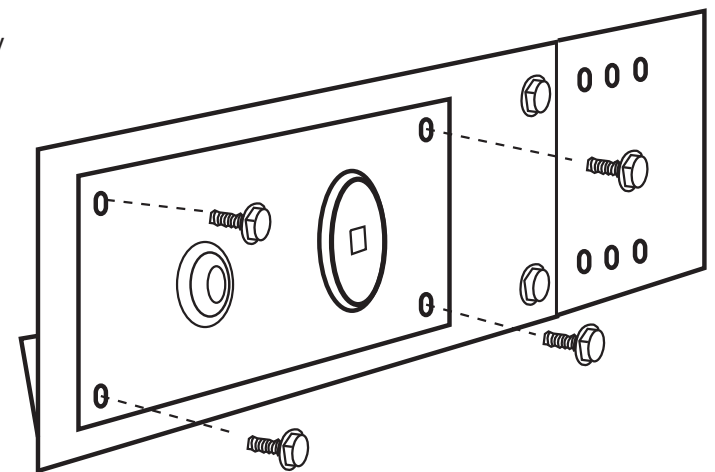

Fig. 8 Close up view securing MT valve bracket to control panel.
STEP 3: Secure the key valve bracket into place using the four black thread cutting screws (See Fig. 8).